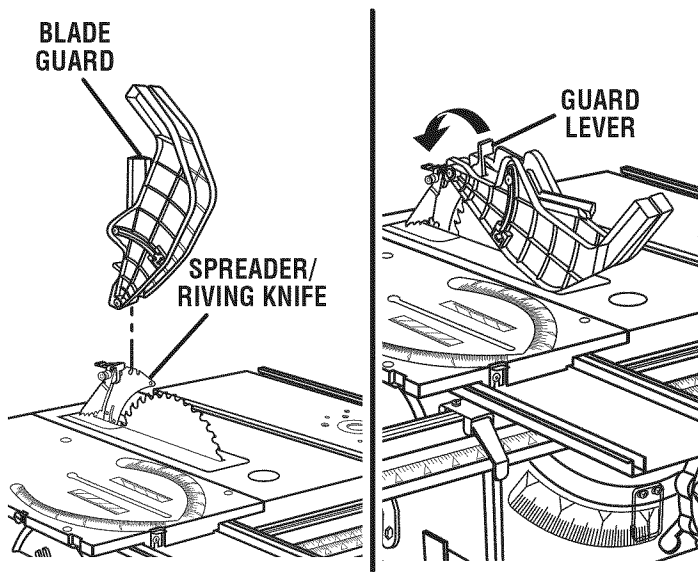

Fig. 21
- With the front of the blade guard raised, lower the back of the guard into the middle hole of the spreader/riving knife. Push the front of the guard down until it is **parallel to the table** (see figure 21). If the blade guard is not parallel to the table, the riving knife is not in the spreader (or “up”) position.